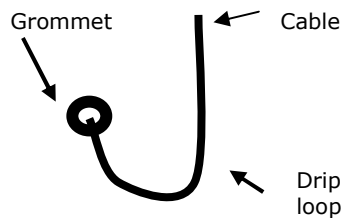

Figure 2: Drip loop
5. Before the cable is run through the cab wall and grommet, leave a drip loop to prevent water from running down the cable and dripping into the cab. (see figure 2 below)